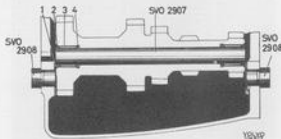

Fig. 4-39. Fitting idler gear
3. Fix the washers to the housing with grease and guide them up into position, with the centering plugs 2908, see Fig. 4-39. Lay the idler gear in the bottom of the housing.